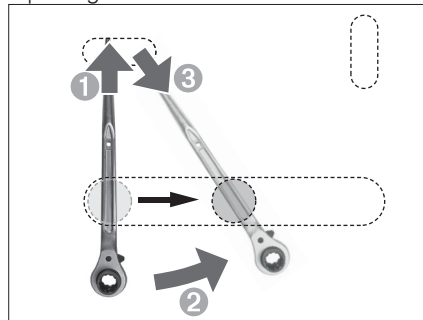

Fig. A4.18a
3. Remove the scaffold ratchet. (Fig. A4.18a)